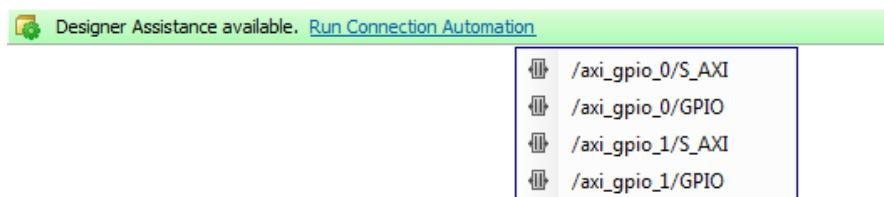

Figure 2.11: Run Block Automation - GPIOinstance 1
- Click **Run Connection Automation** from the *Designer Assistance* message at the top of the *Diagram* window and select **/axi_gpio_0/S_AXI**, as shown Figure 2.11.